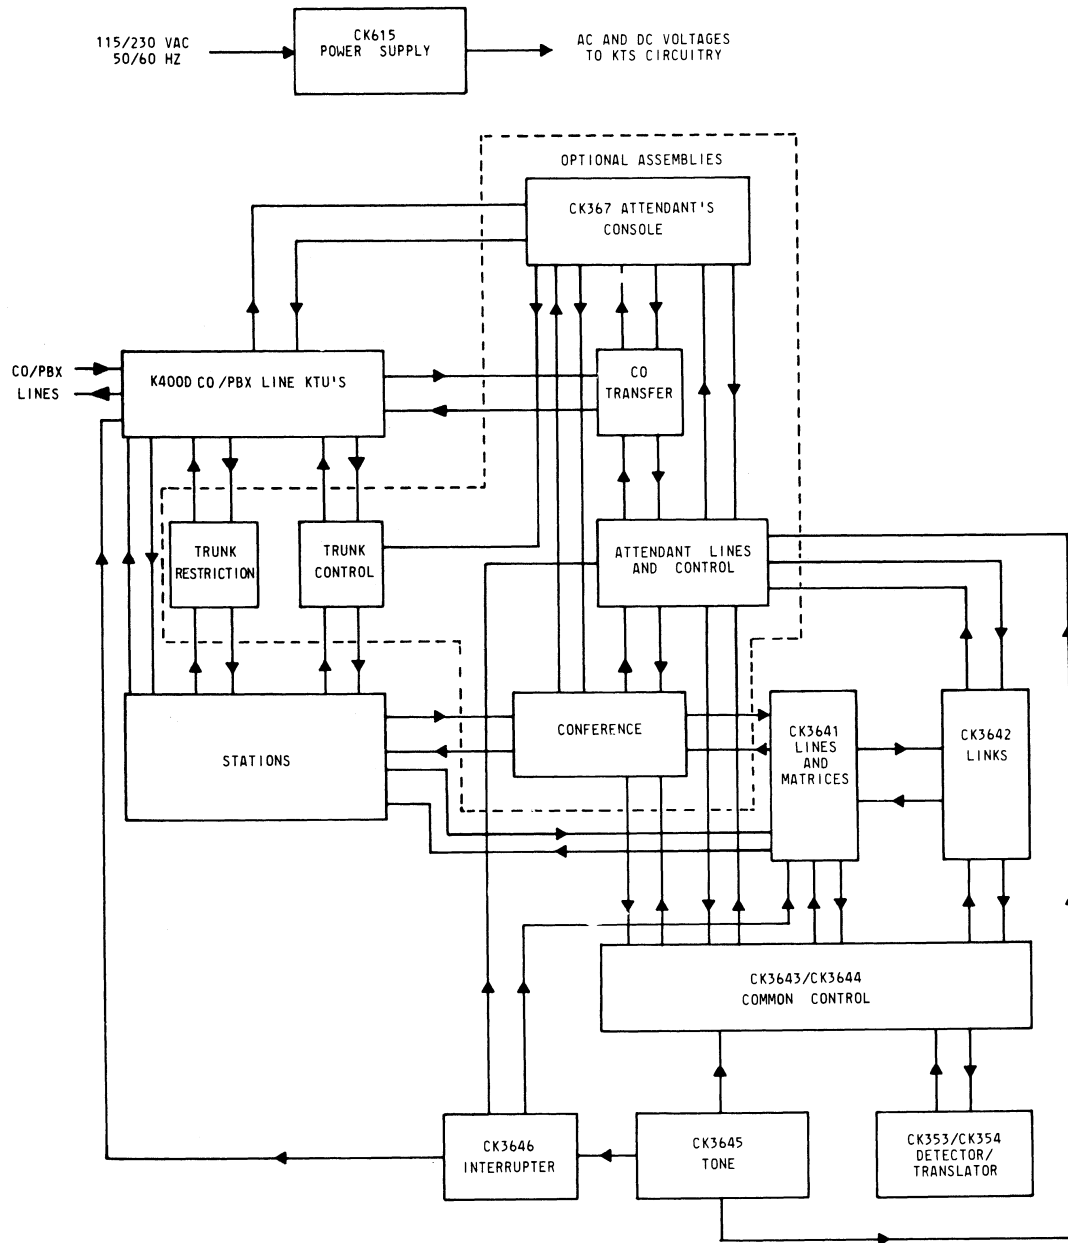

FIGURE 3 Block Diagram
7.1 This basic circuit description is for a complete system, as shown in figure 3, however, all systems may not have all the assemblies shown in figure 3.
7.3.9 Figure 3 shows the relationship of some of the optional assemblies.